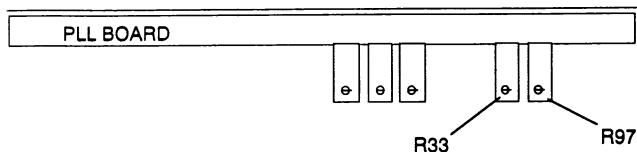

Figure 4-5. R33/R97 Locator
4. If incorrect, set the scope controls to display the distortion analyzer output. Slide the cover back. Adjust R33 (figure 4-5) until waveform peaks are clearly visible in the residue.
Adjust R97 (figure 4-5) until the waveform peaks are symmetrical, one above the average value of the residue signal and one below.